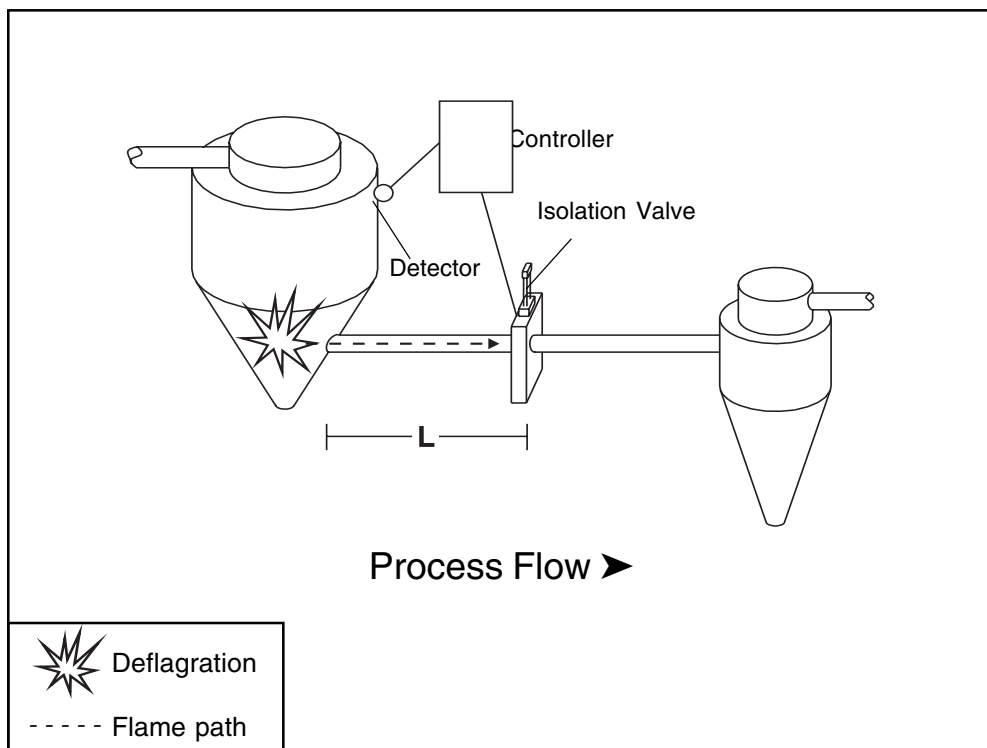

Figure 3: Typical engineered system component placement
- minimal distance required from ignition point. (See Figure 3)